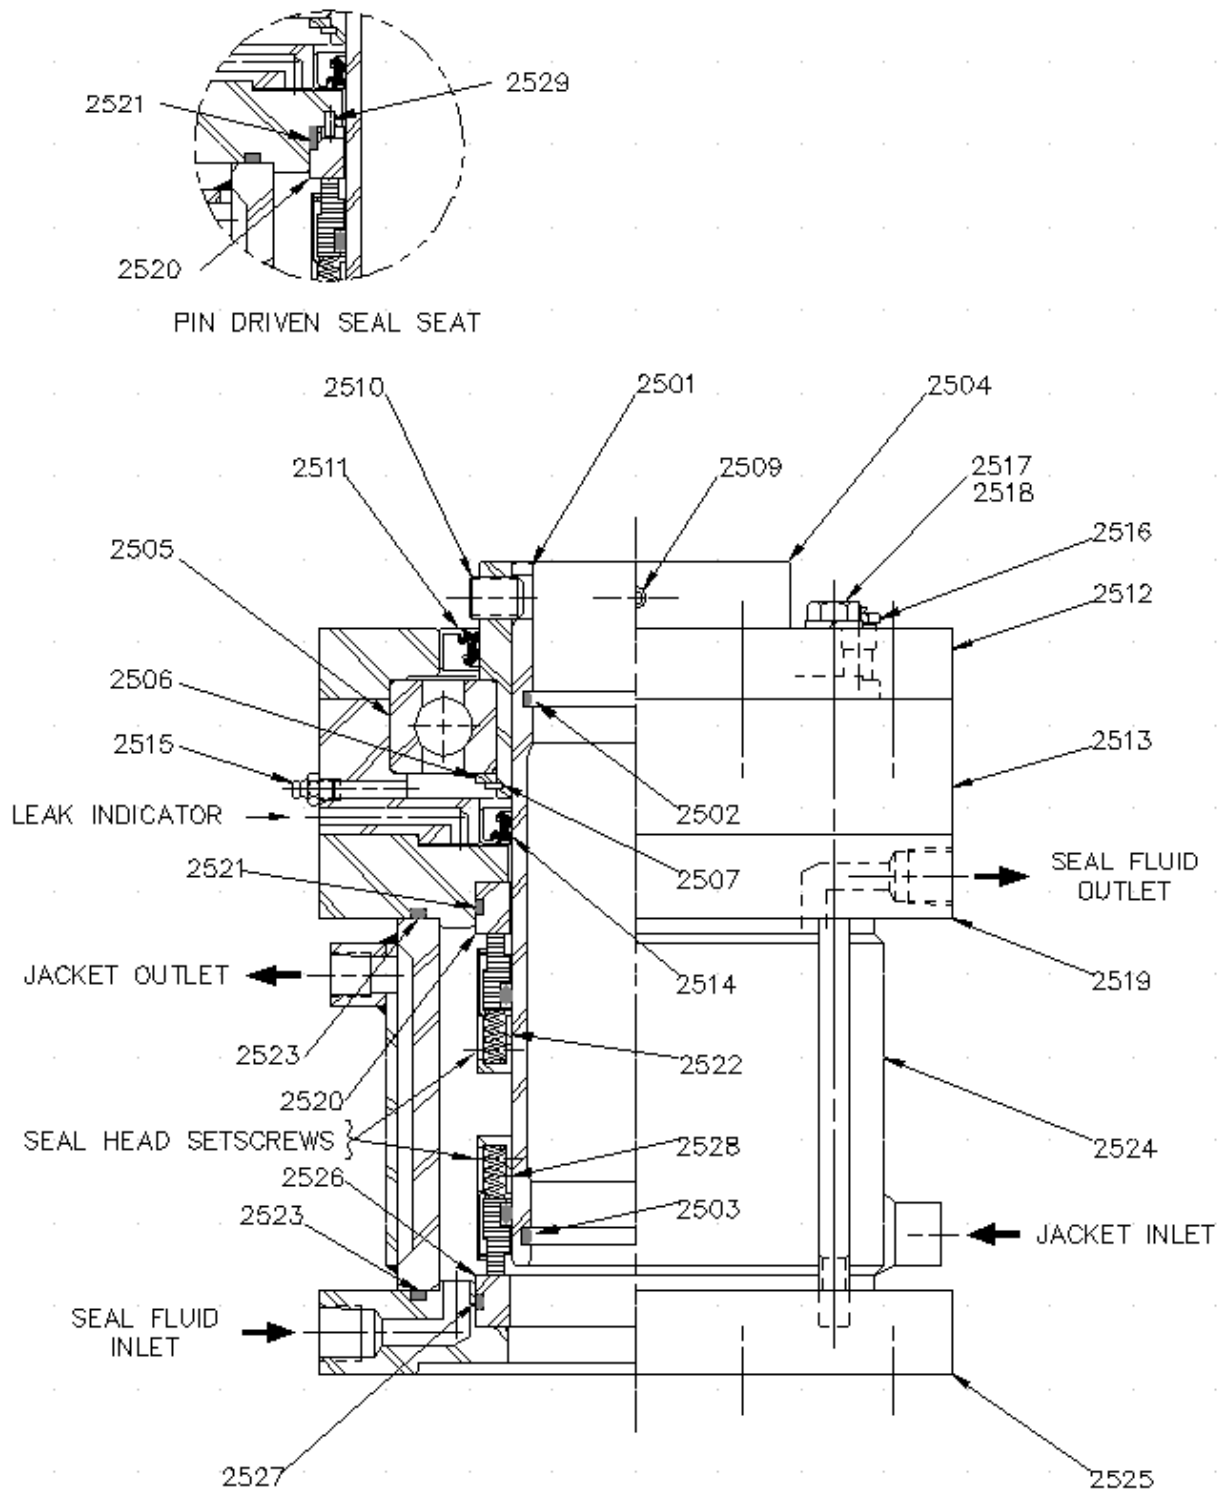

Figure 28. Mechanical Seal Cartridge (Unbalanced seals)
10. For unbalanced seals only (Figure 28, page 80) install a new or rebuilt upper seal head **[2522]** on seal sleeve **[2501]**. Tighten the setscrews over the original setscrew marks. If the setscrew marks are not visible, refer to the unit seal assembly drawing for the set dimension.